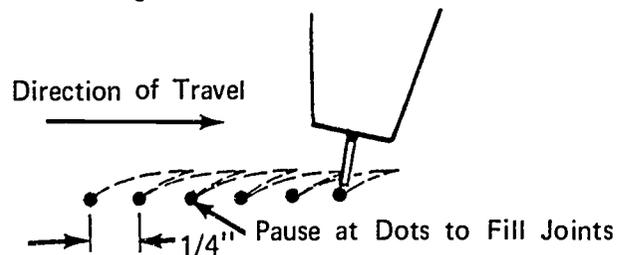

FIGURE 5
4. Weld puddle can be controlled by a whipping and pause motion of electrode (Figure 5)